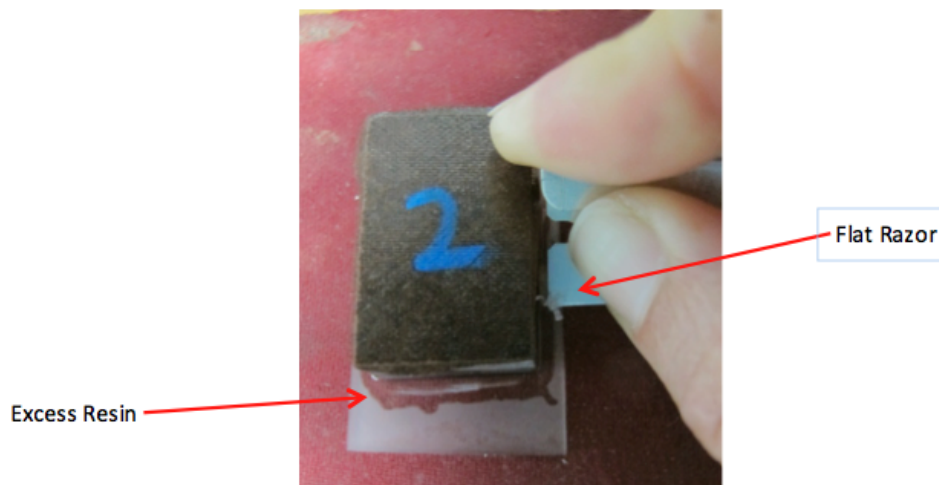

Figure 1
1. Use a flat razor blade to clean the extra resin off the slide around the sample (Fig.1).